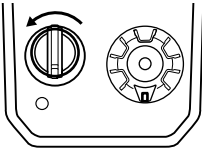

Figure 8
2. Turn the on/off key to the OFF Position and remove the key (Figure 8).